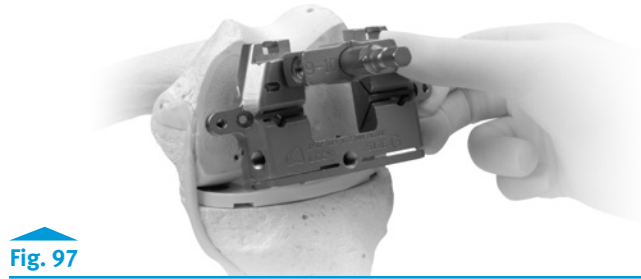

Fig. 97
- Slide the cutting block/bushing assembly over the reamer shaft or Stem Extension Provisional assembly until the cutting block is flush against the distal femur (Fig. 97).